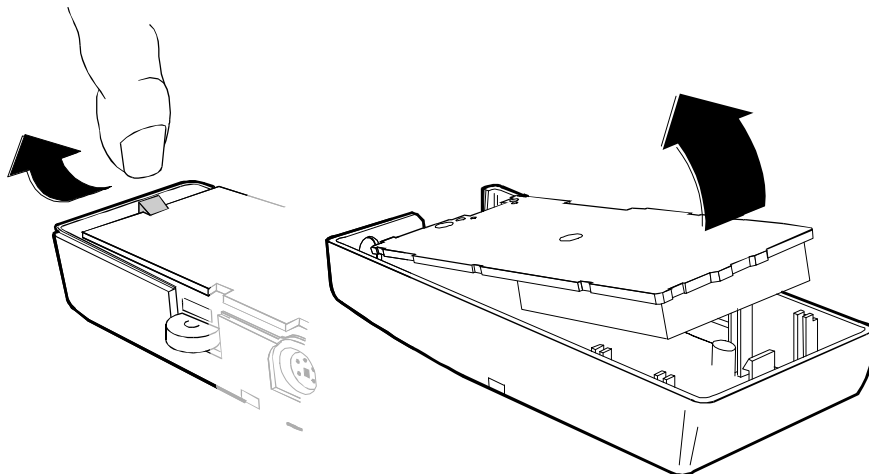

Figure 23: Easy Fit unit, PCB removal
3. (Figure 23) Pull back on the PCB retaining clip and lift the PCB. Disconnect the phone interface cable and speaker cable from the PCB.